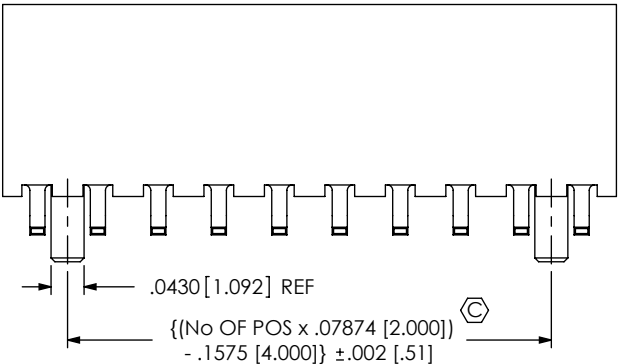

FIG 6
- P: PICK & PLACE PAD (4 POS MIN) (USE LMP-03, SEE FIG 6, SHT 2)